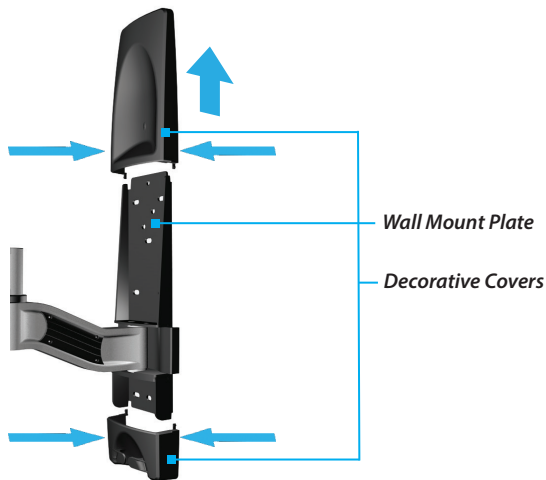

Figure 6
1. Attach the **Upper** and **Lower Decorative Covers** by sliding each **Decorative Cover** along the **Wall Mount Plate** until the **Tabs** of each **Decorative Cover** snaps into place. (Figure 6)